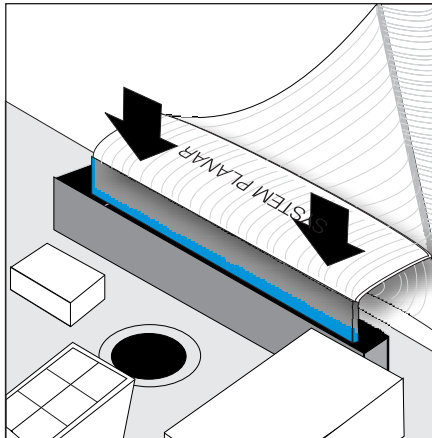

Figure 55. Install service controller cable into the system board
- a. Use all the parts in the system board FRU kit (system board, processors (2), VRM, riser card). Reuse only the four memory modules that you removed in step 6 on page 184 and the two adapter assemblies that you removed in step 4 on page 184.
- e. *Carefully* install the end of the ribbon cable (marked “System Planar”) to the system board being sure to install the cable straight in. See Figure 55. Be sure to verify that the blue line on the cable connector end is not visible.